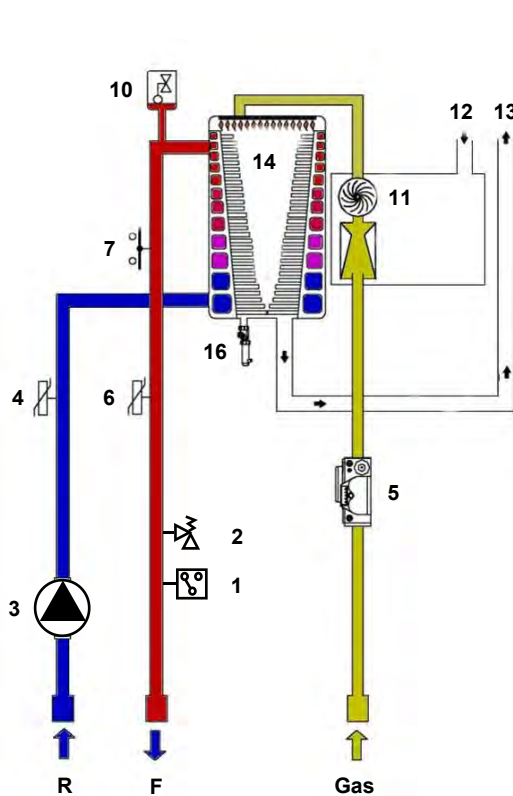

Fig 1 Diagram of operating principles
The Alkon is a wall-mounted condensing boiler with a counter flow heat exchanger with heat exchange pins that ensure a constant rate of heat transfer through the aluminium body. It has a fully-modulating, down-firing pre-mix gas burner (refer Figs 1 and 2). When operating in condensing mode with a flow of 50°C and a return of 30°C, it will give efficiencies of up to 107.3% (ncv). The combustion air fan and venturi (11) accurately control the volumes of gas and air and mix them in a sealed chamber prior to ignition. This ensures that there is optimum combustion at any point in the modulation range of the boiler. A small flame is held on the entire surface of the plaque burner.
#### Key to Figs 1 & 2